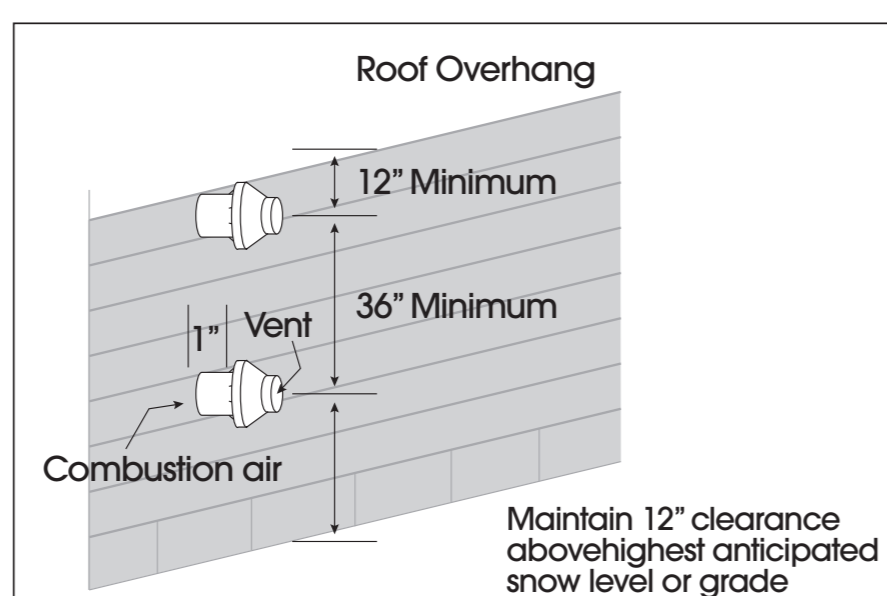

Figure 4—Sidewall Termination for Multiple Vertical Concentric Vents
- Refer to Figures 4 & 6 when venting multiple units using multiple Concentric Vents.
**NOTE:** Maintain clearance dimensions as shown in Figure 4, 5, 6 & 7.